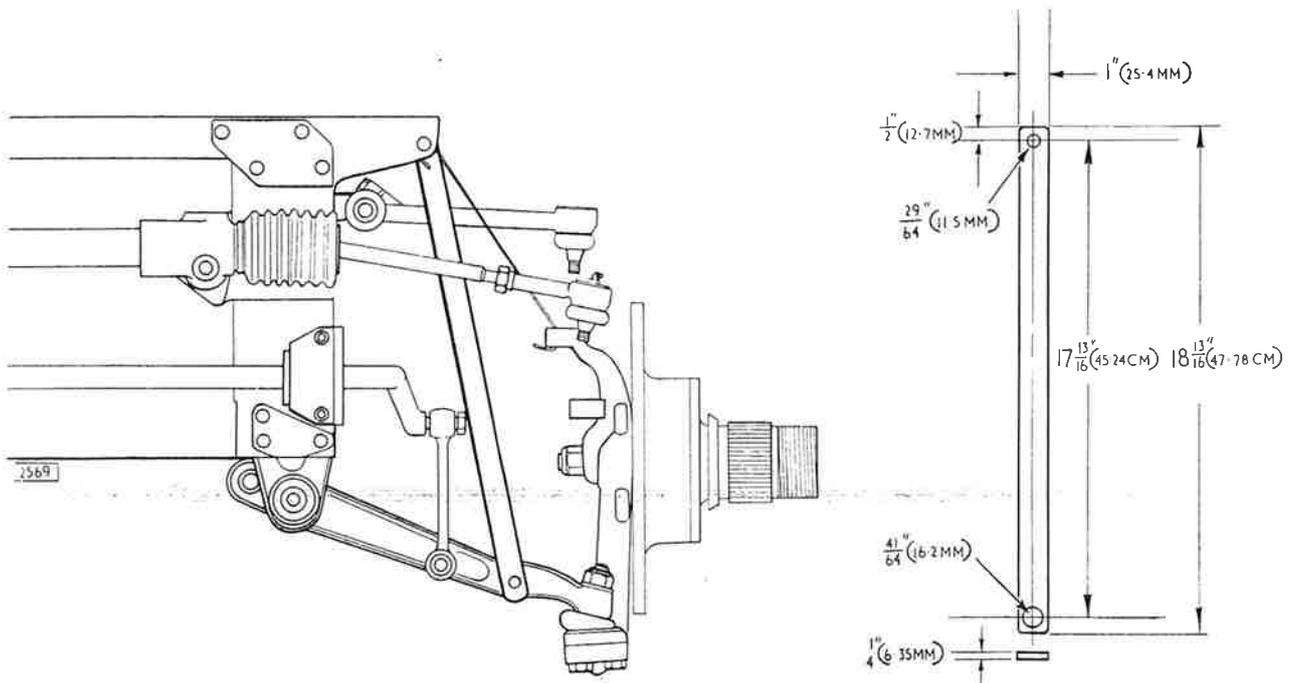

Fig. 13. The torsion bar setting gauge.
**Note:** The setting gauge can be easily made using Fig. 13 as a reference.